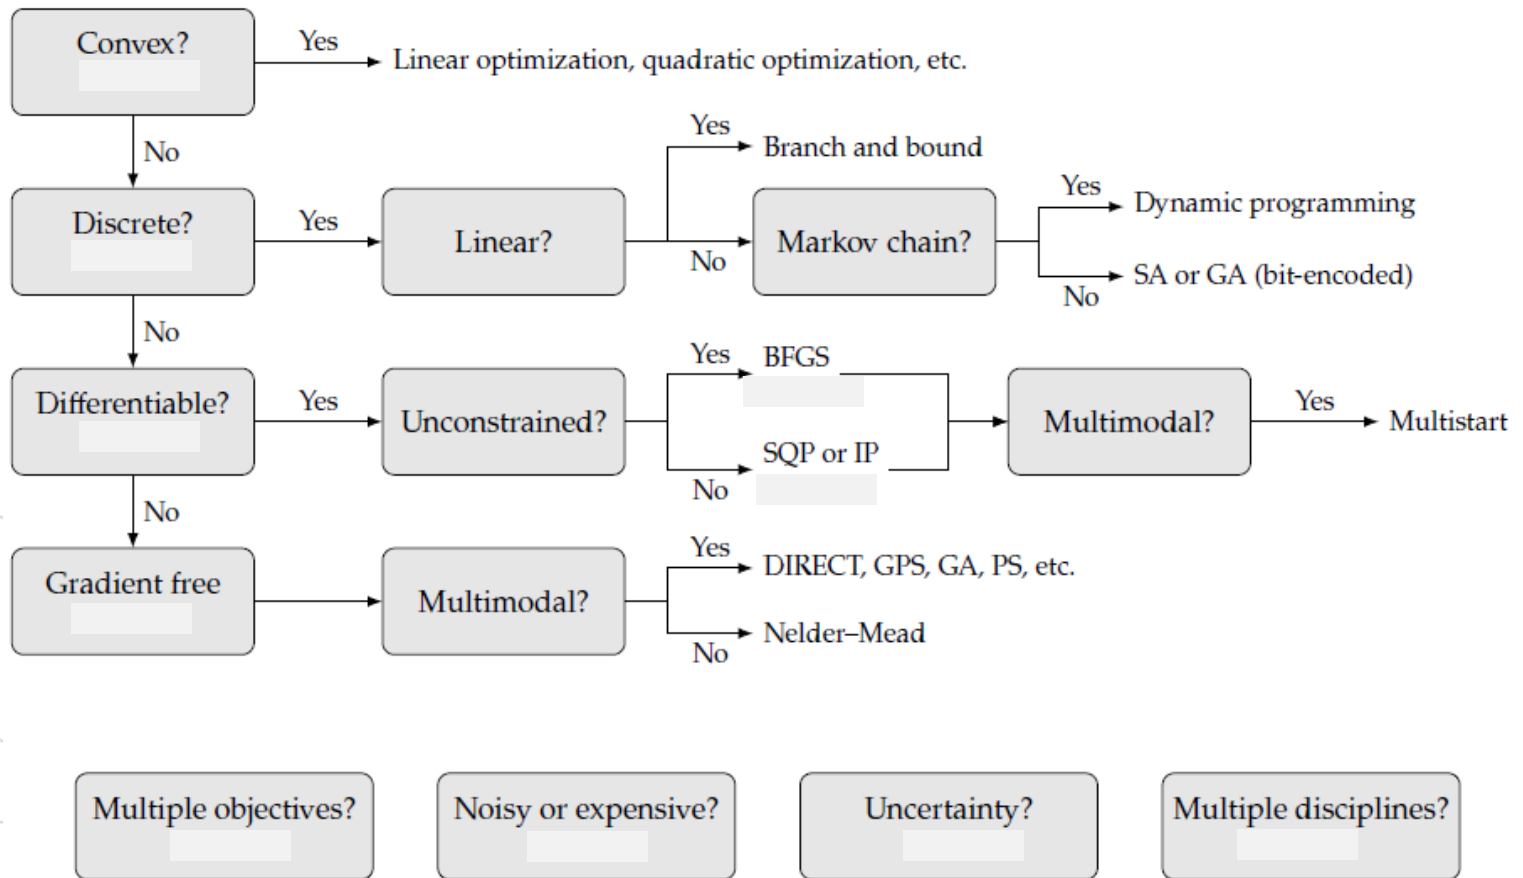

Figure 1.22 Decision tree for selecting optimization algorithms.
- Figure 1.22 outlines one approach to algorithm selection.
- Another alternative if the problem is not readily differentiable is to consider surrogate-based optimization (the box labelled “Noisy or expensive” in Figure 1.22).